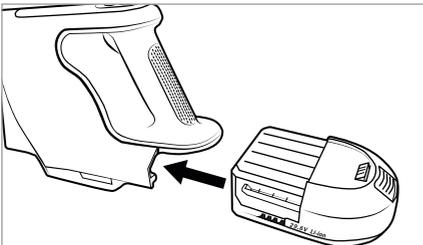

Fig. 3
- 3) Push the battery 2 into the appliance until it audibly clicks into place (see Fig. 3).